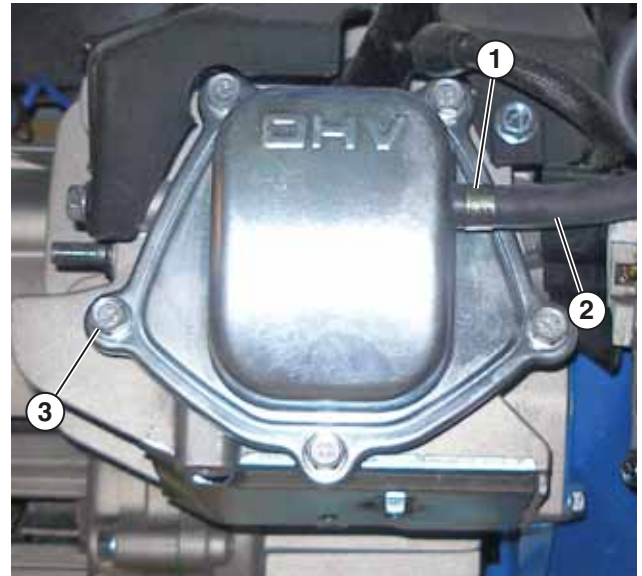

Figure 7-20
1. Loosen the clamp and disconnect the breather hose from the rocker arm cover (see Figure 7-20).
2. Remove the bolts (see Figure 7-20) and rocker arm cover and carefully remove the gasket. If the gasket is torn or damaged, it must be replaced.